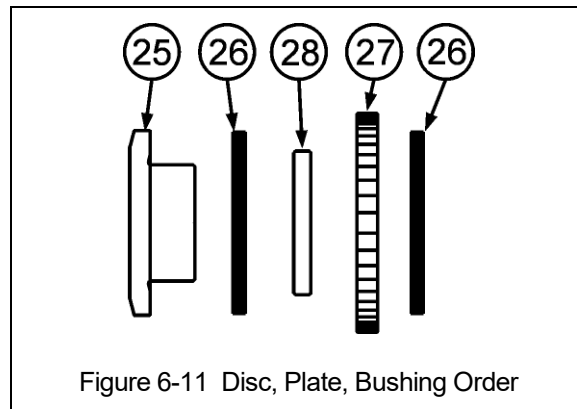

Figure 6-11 Disc, Plate, Bushing Order
- 4) While holding two (22) pawls outward, install (25) Friction Disc, (26) Friction Plate, (28) Bushing, (27) Ratchet Disc and (26) Friction Plate properly in this order. Refer to Figure 6-11.